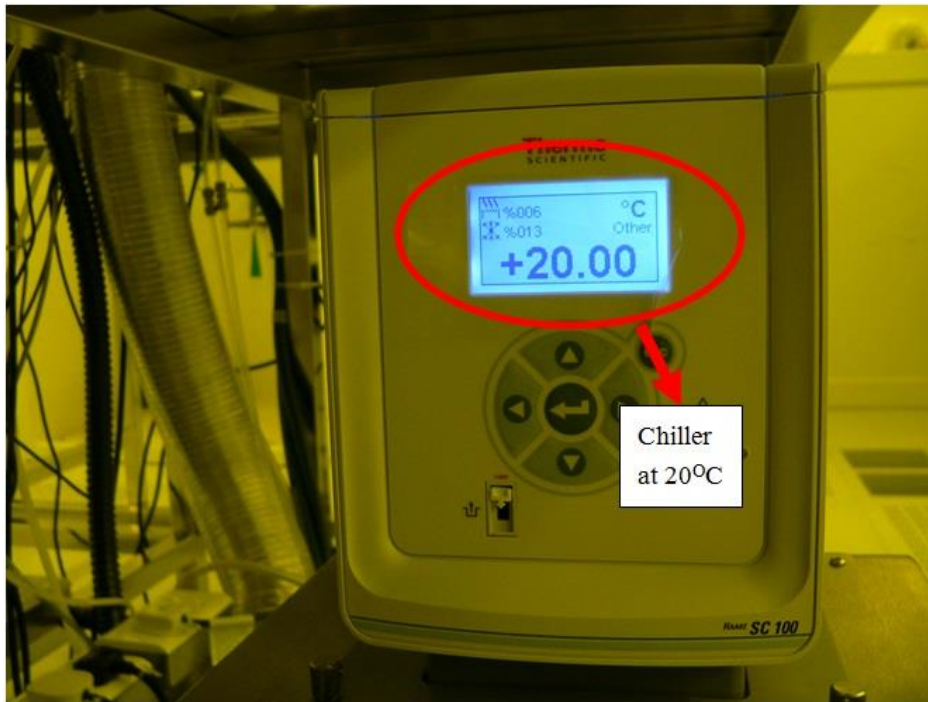

Fig.5 Chiller underneath AW610
5. The temperature of chiller is about 20°C (Fig. 5).